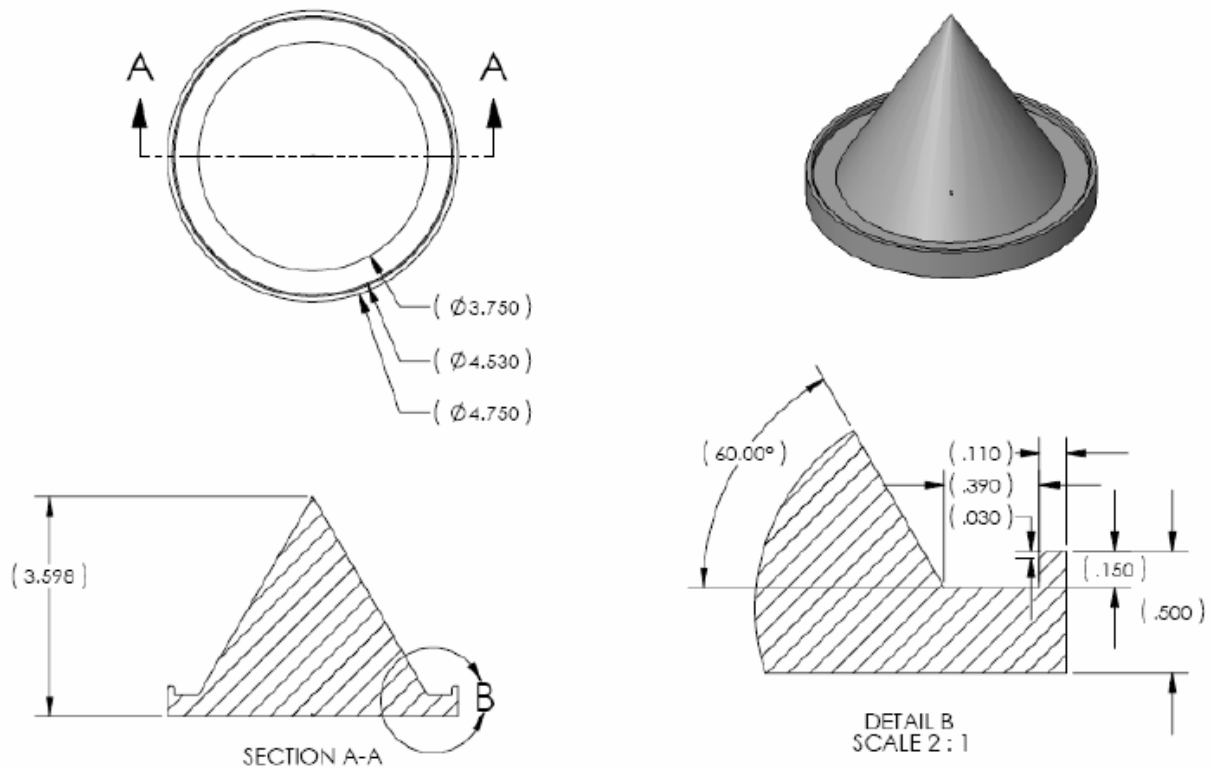
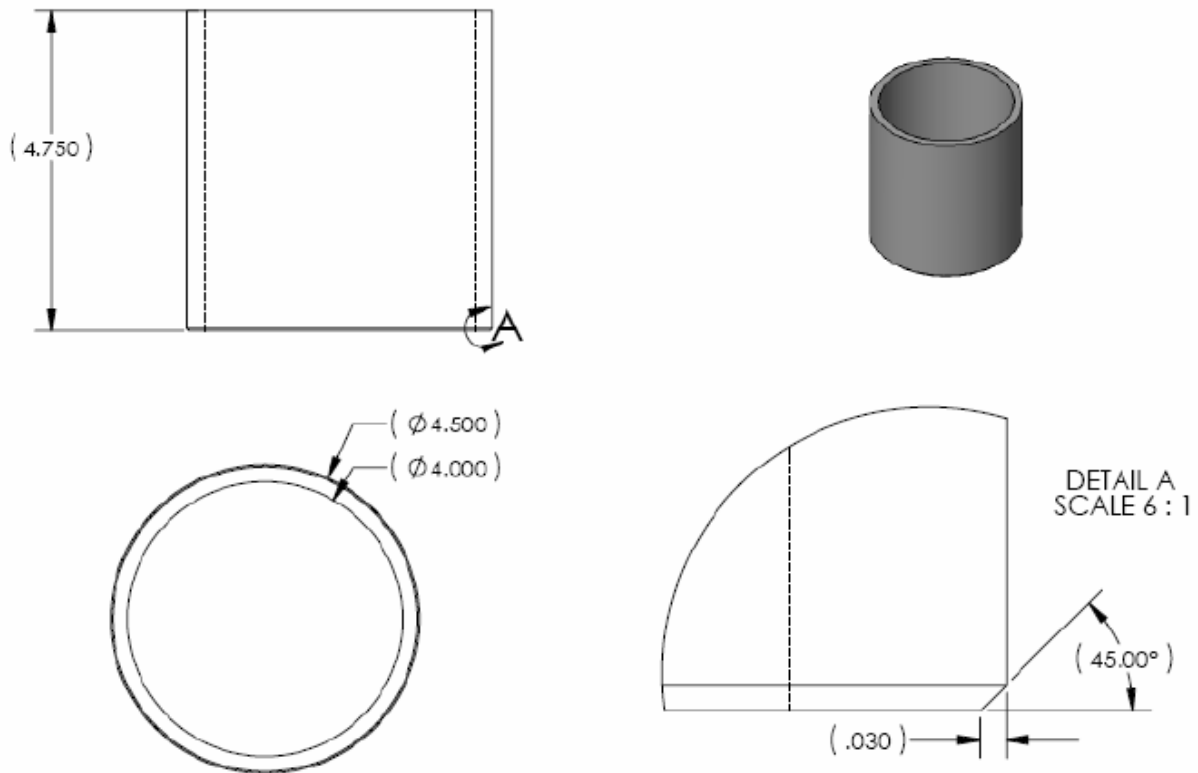

Figure 1—Cone Mold End Cap
Figure 2—Cone Mold Cylinder
- 2.1 *Cone mold*, silicone rubber, cast using end cap (Figure 1) and cylinder molds (Figure 2) constructed of steel, aluminum, or other suitable material.